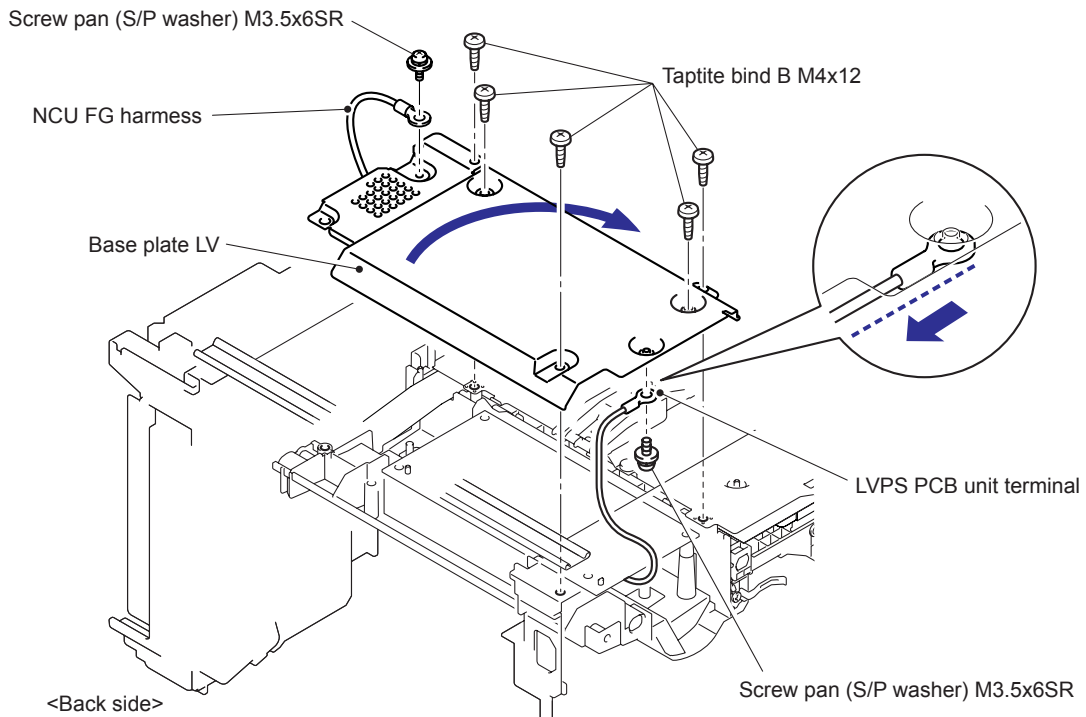

Fig. 5-247
- When assembling the Base plate LV, Direct the cable side of the LVPS PCB unit terminal to the backward (Fig. 5-247: To the direction of an arrow of the enlarged illustration.), and align parallel the LVPS PCB unit terminal with the side of the Base plate LV.
(5) Remove the two bind B M4x12 Taptite screws, and then remove the LV insulation sheet.